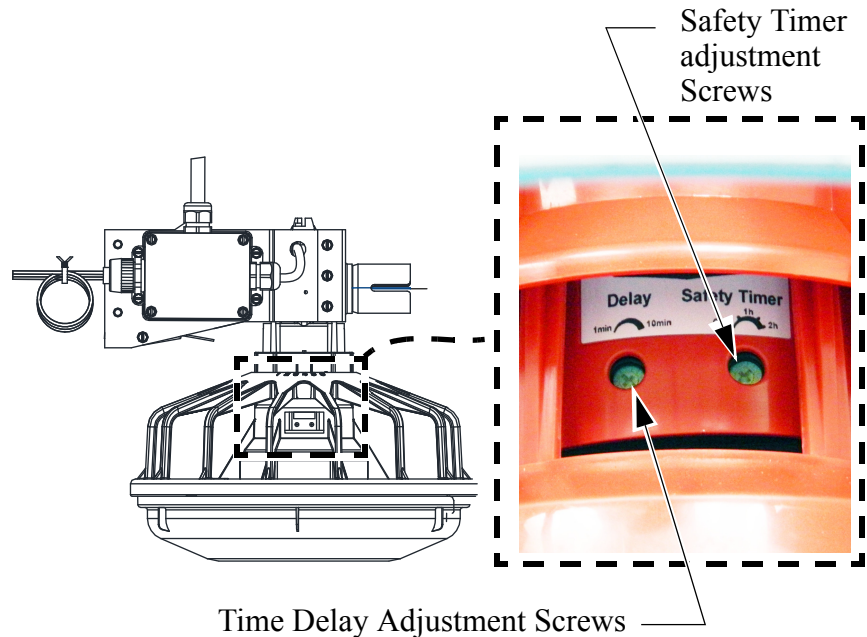

Figure 60. Switch Adjustment
See Figure 60. The Electron Sensor's sensitivity is preset at the factory. The time delay adjustment is 1 minute to 10 minutes. *The factory setting is 1 minute.* The Sensor also comes with a Safety Timer that can be set to: Off, 1 hour, or 2 hours. *The factory setting is 2 hours.* To get access to the Adjustment Screws:
Step 2: Pull the Sensor Down to expose the Safety Timer and Time Delay Adjustment Screws See Figure 60.